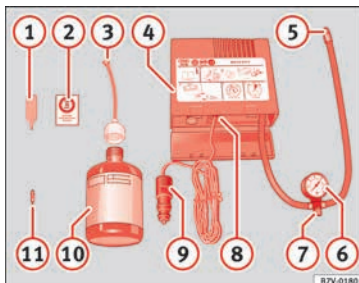

Fig. 97 Standard representation: contents of the anti-puncture kit.
» Fig. 97:
Screw the inflator tube » **Fig. 97** ⑤ again and check the pressure on the gauge ⑥.